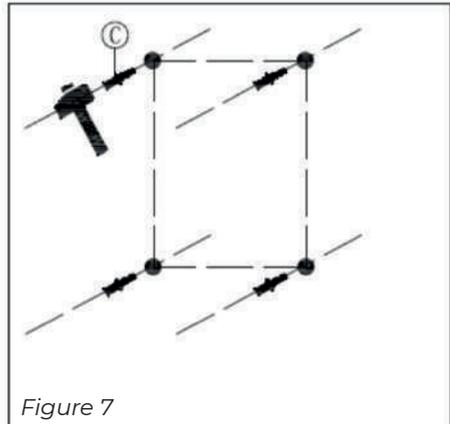

Figure 7
6. Place the wall plugs and provided rings (Figure 7, pos. C).